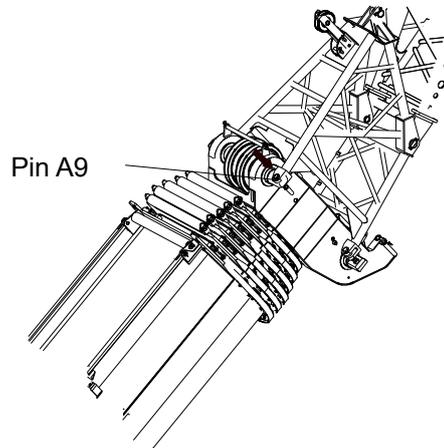

Figure 5-9 Pin A9 installation
- k) Align the other end of the jib with the connection points on the left side of the telescopic section VII head. Install the pin A9 and the retaining clip. Refer to Figure 5-9.